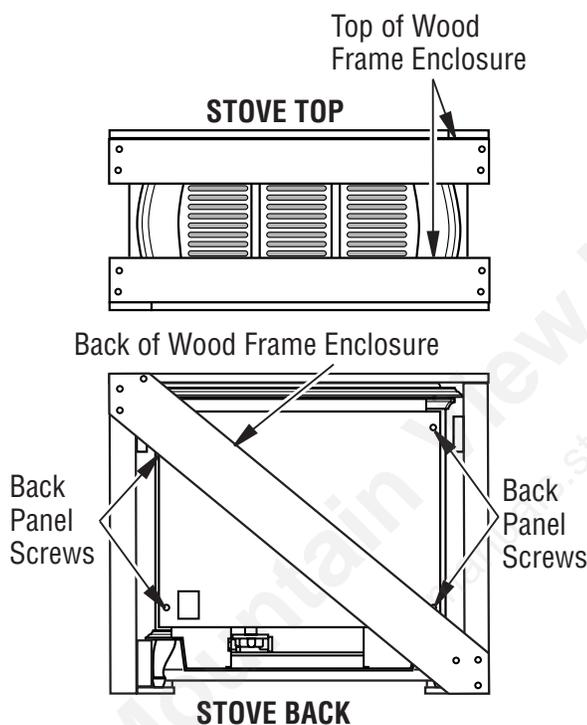

Figure 5 - Unpacking Stove from Wooden Shipping Enclosure
4. Remove back panel from stove (see Figure 5). Use an adjustable wrench or a 10 mm socket. Remove 4 bolts and washers. Keep bolts and washers to reattach back panel later.